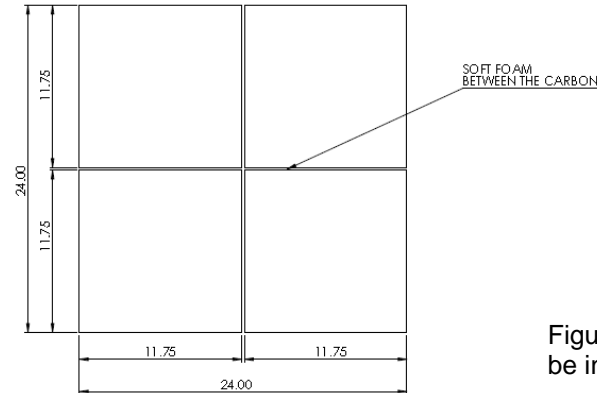

Figure 7. Airflow can be in either direction
- 7) Position the new carbon inserts so that they are centered within the frame (fig 7).